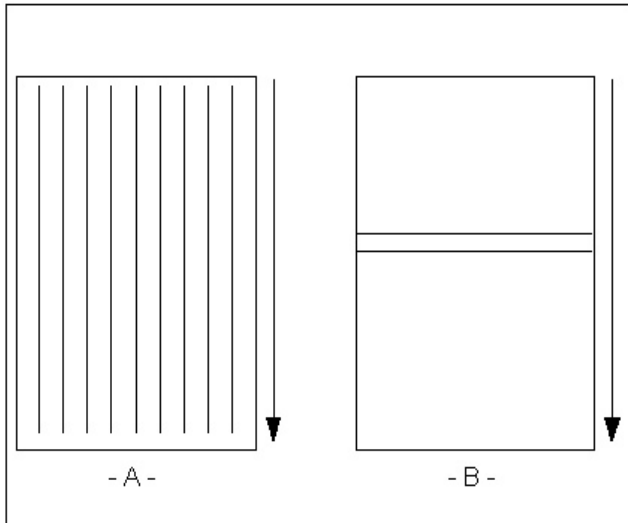

Fig. 6-26. Straight Waves in Output.
### 3. Straight waves in output (Fig. 6-26 A).
- ### 4. Indent waves in output after pull rollers (Fig. 6-26 B).